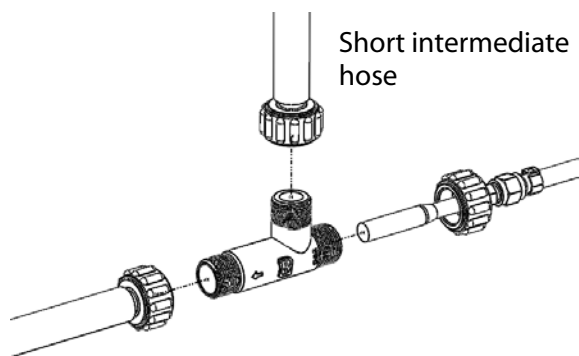

Figure 1.
1. Connect the carbonation stone, short intermediate hose, and long saturation hose to the Stainless Steel Infusion Tee and tighten (Figure 1).